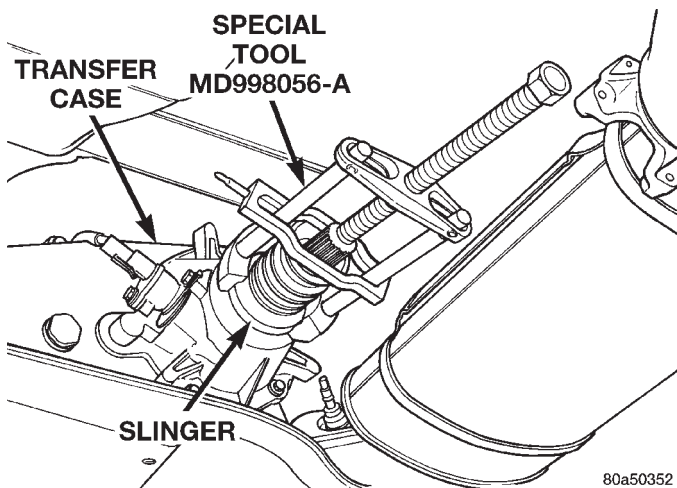

Fig. 8 Rear Slinger Removal
(4) Using Puller MD-998056-A, remove rear slinger (Fig. 8).